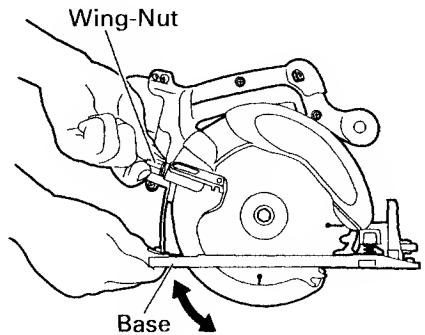

Fig. 7
If the wing nut to adjust cutting depth (Fig. 7) is loose, injury can result. Make sure that it is tightened securely.
1. Adjusting the cutting depth (Fig. 7)